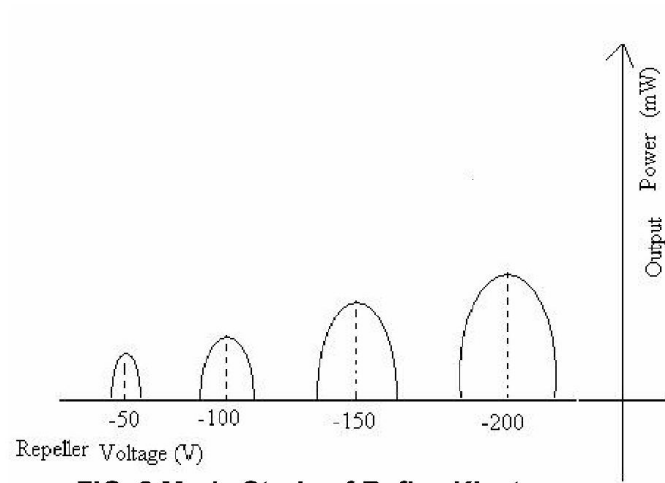

FIG. 2 Mode Study of Reflex Klystron.
8. By changing the reflector voltage and amplitude of FM modulation, any mode of Klystron tube can be seen on Oscilloscope . Model Waveforms are shown in Fig 2.